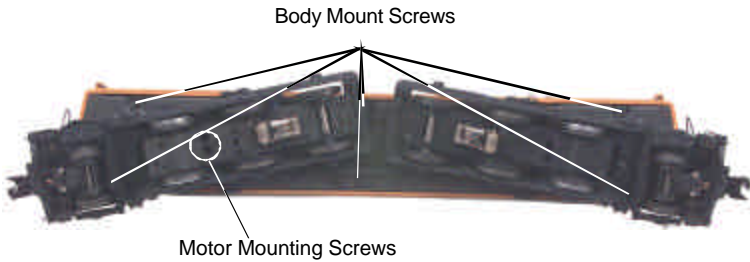

Figure 3: Body Removal Screw Locations
1. To access the gear box, remove the cab from the chassis by unscrewing the chassis screws as seen in Figure 3 and lifting the cab from the chassis.
2. Once the cab is removed, remove the trucks by unscrewing the 2 black Phillips motor mount screw located on the underside of the drive trucks (see Fig. 3).
Next, remove the truck sides from the truck block by unscrewing the mounting screws as noted in Figure 3.